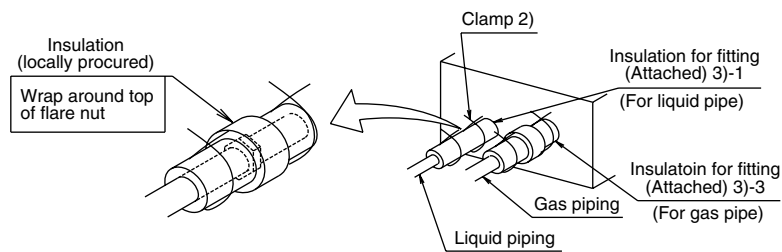

Fig. 4
- Piping connections should be checked for gas leaks and then, referring to Fig. 4, insulated using the included joint insulating material 3) on all liquid and gas pipes (a total of 5 locations) (Tighten both edges with clamp 2.) Use the included joint insulating material.